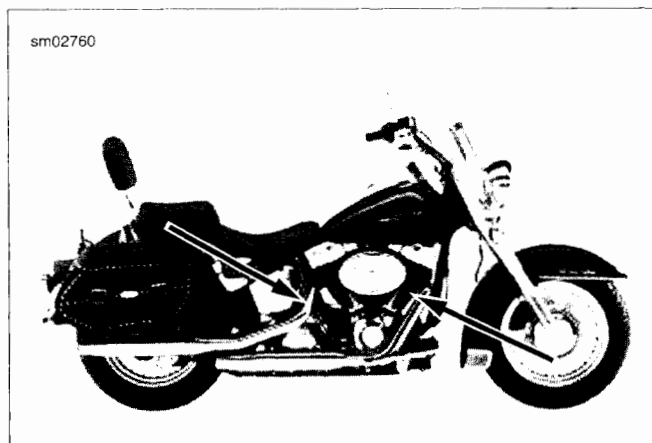

Figure 4-29. Oxygen Sensors (Inboard Side of Exhaust Pipes)
1. See Figure 4-29. The O₂ sensors are installed in threaded bosses on the inboard side of front and rear exhaust pipes.